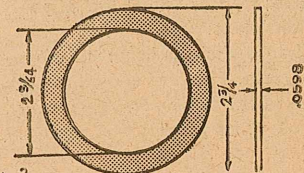

Fig. 3
ground down to the diameter shown or (3) follow the dimensions in Fig. 3. and make the washer from scratch.